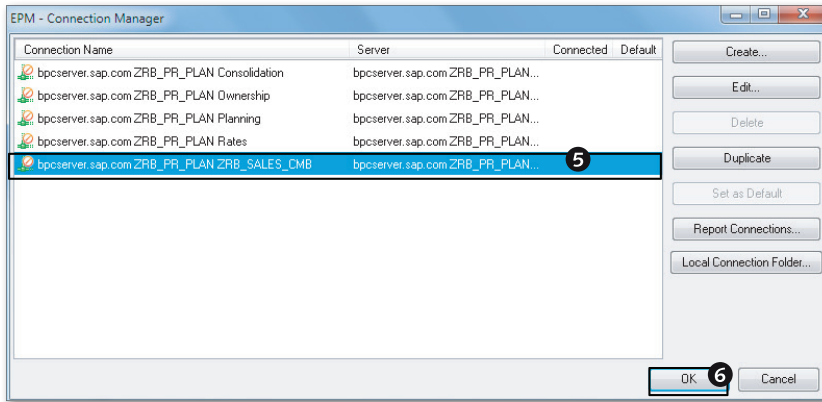

Figure 4.16 Loading Master Data from a Flat File into a Dimension—Part B
3. The system automatically authenticates your credentials inside the SAP EPM add-in client for BPC, displays the list of models in the environment, and lets you select a model to connect to. Select the **ZRB_SALES_CMB** model that you created in Chapter 3 to use for storing sales actuals and plan data (Figure 4.16, ❺).
- Click on OK to connect to the model (Figure 4.16, 6). A connection is established to the model. You will see two tabs applicable for EPM systems displayed inside Excel: EPM and Data Manager. (So far, you have seen how to log in directly to the EPM add-in interface from the Web Client without manually specifying the connection parameters for the SAP BPC system. In Chapter 5, you will see how to create a manual connection to the SAP BPC system inside the EPM add-in.)